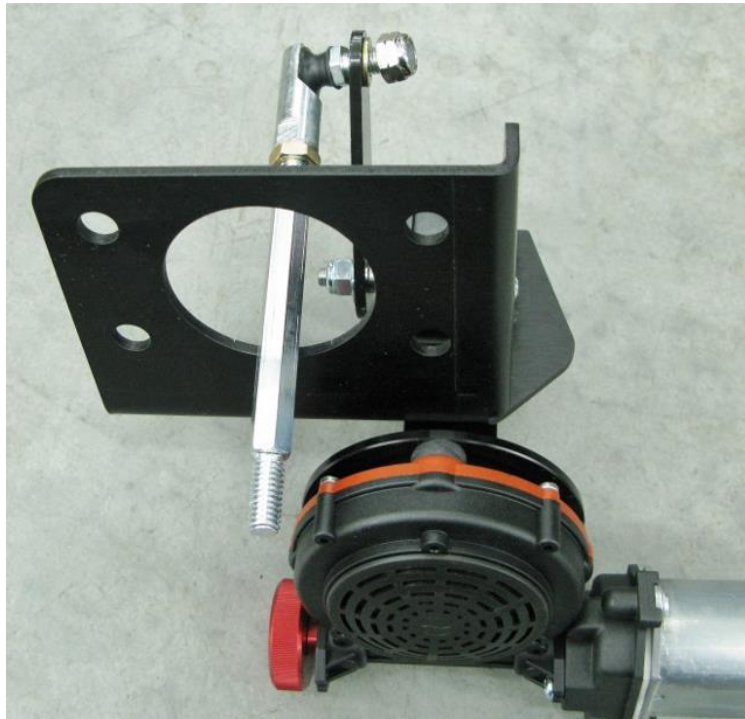

Figure 8 - Install Pitman Arm Linkage
8. Install the pitman arm linkage to the pitman arm by placing the threaded end of the linkage through the center hole of the mounting bracket. Remove the 5/16"-24 Nylock nut and washer on the ball joint side of the linkage. Install this end of the linkage into the pitman arm on the actuator and install the washer followed by the 5/16"-24 Nylock nut. Hold the hex nut on the linkage with a 7/16" wrench and tighten the Nylock nut with a 1/2" socket. Torque the 5/16"-24 Nylock nut to 20 ft.-lbs. (Figure 8).